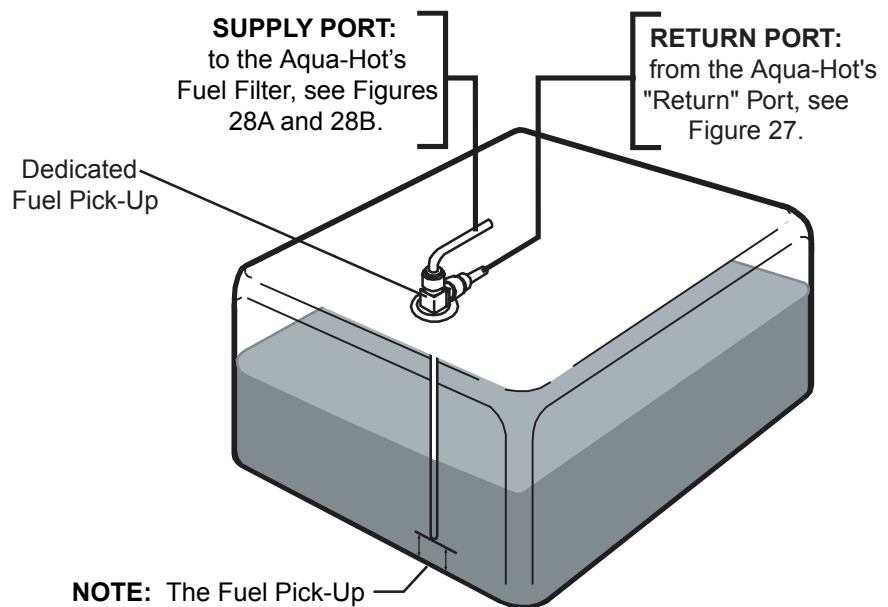

Figure 26
- A. The diesel fuel supply should be drawn directly from the Vehicle's main Fuel Tank or from a separate auxiliary Fuel Tank, if applicable. The Fuel Tank should be equipped with a dedicated fuel pick-up (“Supply” port and “Return” port); reference Figure 26.
3. Connect the **Supply** and **Return** lines to the Fuel Tank/Fuel Pick-Up; reference Figure 26.